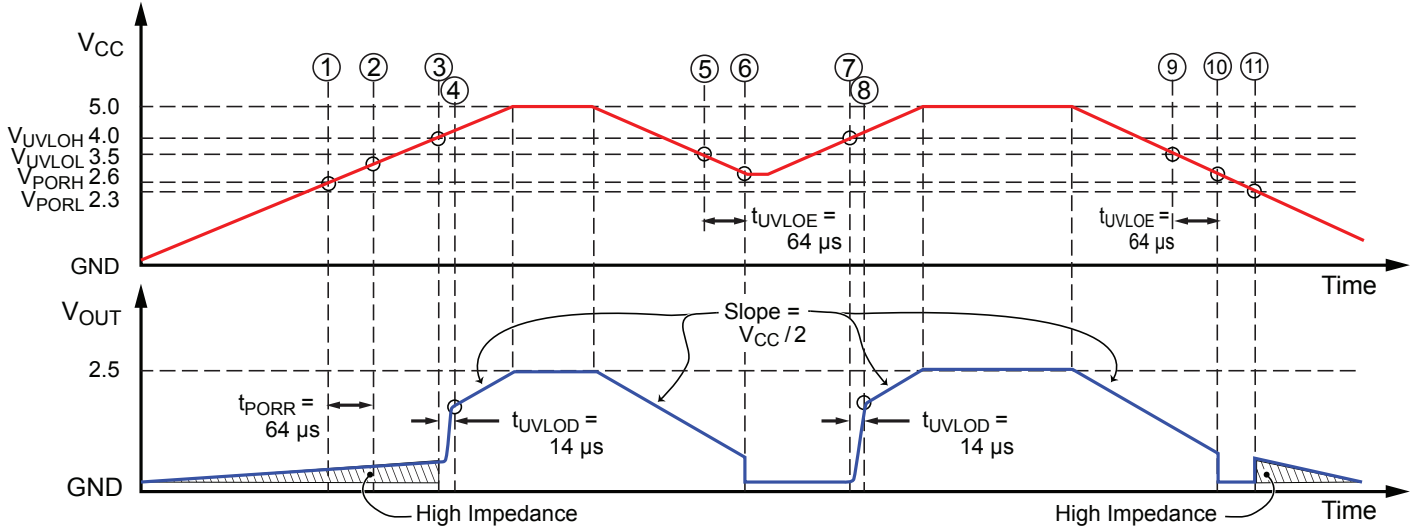

Figure 4: POR and UVLO Operation: Slow Rise Time case
- **Power-Up** At power-up, as  $V_{CC}$  ramps up, the output is in a high impedance state. When  $V_{CC}$  crosses  $V_{PORH}$  (location [1] in Figure 4 and [1'] in Figure 5), the POR Release counter starts counting for  $t_{PORR} = 64 \mu s$ . At this point, if  $V_{CC}$  exceeds  $V_{UVLOH} = 4 V$  [2'], the output will go to  $V_{CC} / 2$  after  $t_{UVLOD} = 14 \mu s$  [3']. If  $V_{CC}$  does not exceed  $V_{UVLOH} = 4 V$  [2], the output will stay in the high impedance state until  $V_{CC}$  reaches  $V_{UVLOH} = 4 V$  [3] and then will go to  $V_{CC} / 2$  after  $t_{UVLOD} = 14 \mu s$  [4].